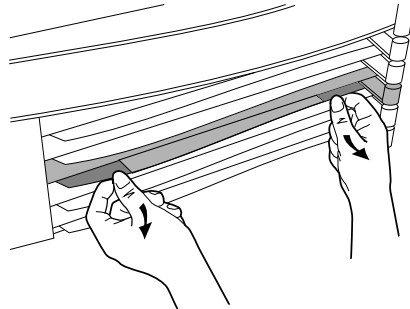
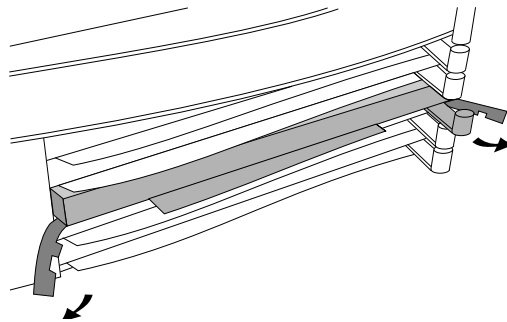

Figure 7. Unlocking Card Bezel
Figure 8. Disengaging Card Bezel
4. Press down slightly on the insides of both locks on the old card's bezel (see figure 7), then swing them outward until the bezel disengages (see figure 8).